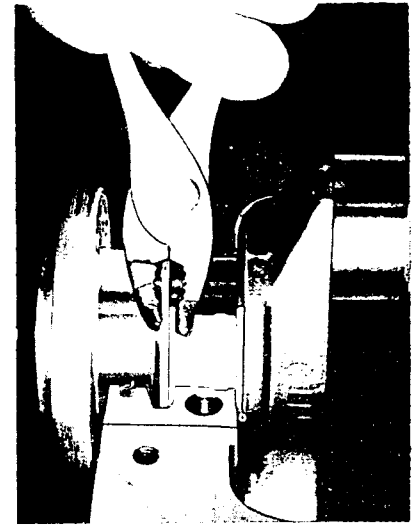

Figure 8-1-43
b. Then use a pair of pliers to hold the bearing thrust surface to the oil slinger and rotate the crankshaft to pull bearing out (see Figure 8-1-43).